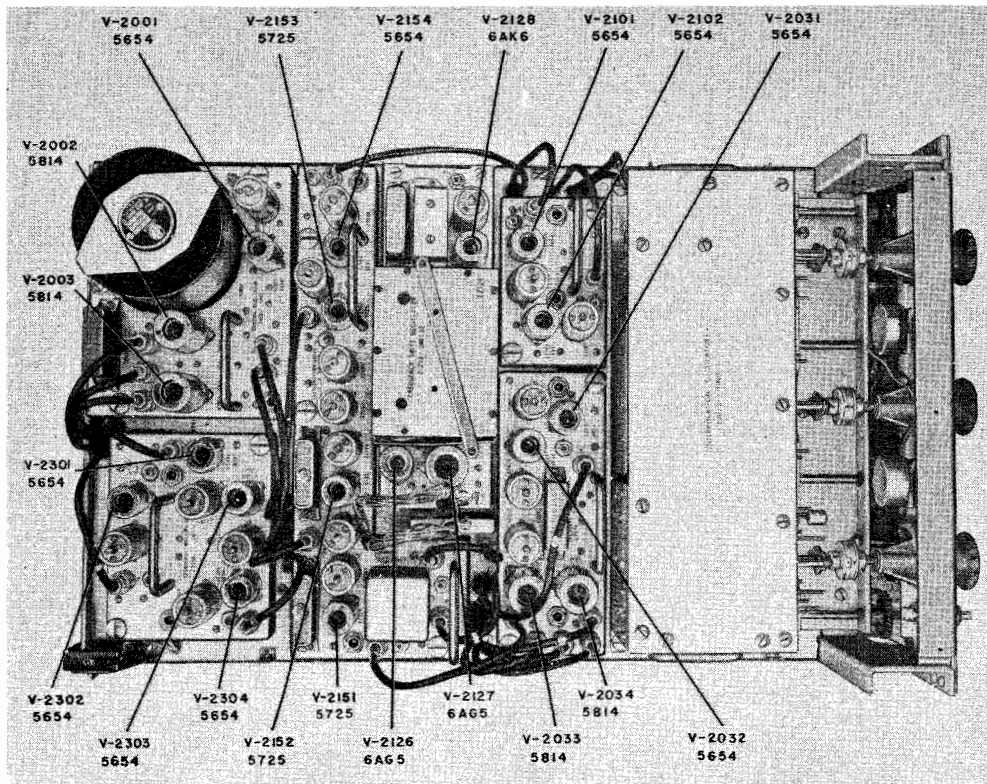

Figure 5-9. Radio Frequency Oscillator O-275/SRT (RFO), Top View, Tube Locations
11.	Electron Frequency Converter Z-2158 (RFO-Unit 5). (See figure 5-9.)
13.	Frequency Multiplier Z-2305 (RFO-Unit 7). (See figure 5-9.)